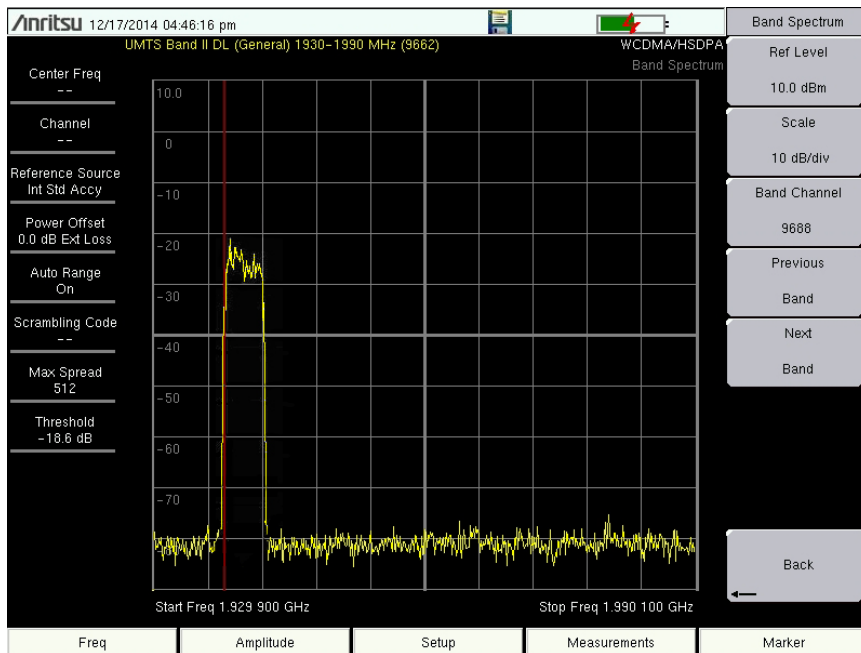

Figure 3-1. Band Spectrum
3. Press the Band Spectrum submenu key to display the band spectrum (Figure 3-1).